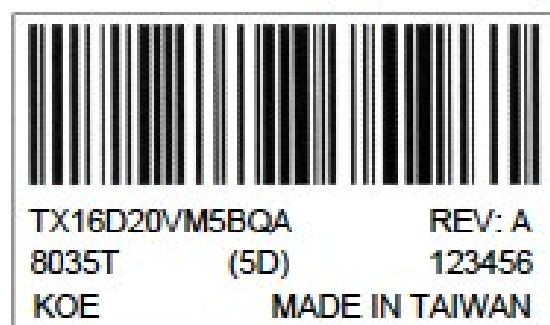

Fig 14.1
- 1) The lot mark is showing in Fig.14.1. First 4 digits are used to represent production lot, T represented made in Taiwan, and the last 6 digits are the serial number.
- 4) The location of the lot mark is on the back of the display shown in Fig. 14.1.